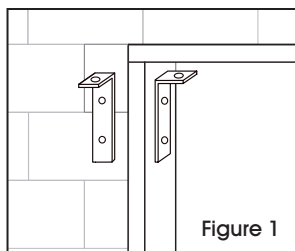

Figure 1
1. Before installing, decide on gate placement. "L" brackets that form top hinge allows gate placement in the recess of door frame. Installation can also be made outside or inside of wall next to door or opening frame. (See Figure 1) Either side of gate can be toward the outside of building. A label on the operating side (the side with the center drop pins) indicates RHT (right) or LFT (left) of a person facing the operating side.